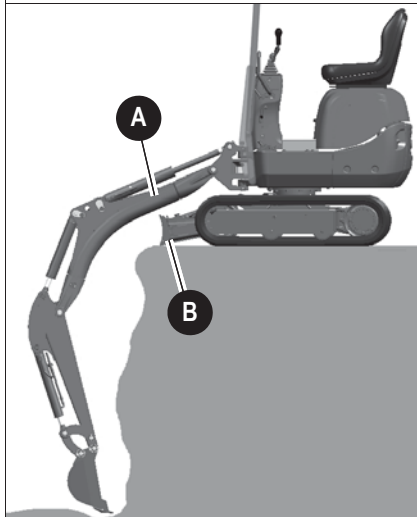

Fig. 185: Deep excavation
- If you perform deep excavations with stabilizer blade **B** at the front, ensure that boom **A** does not touch or rest on stabilizer blade **B** \(Fig. 185\)